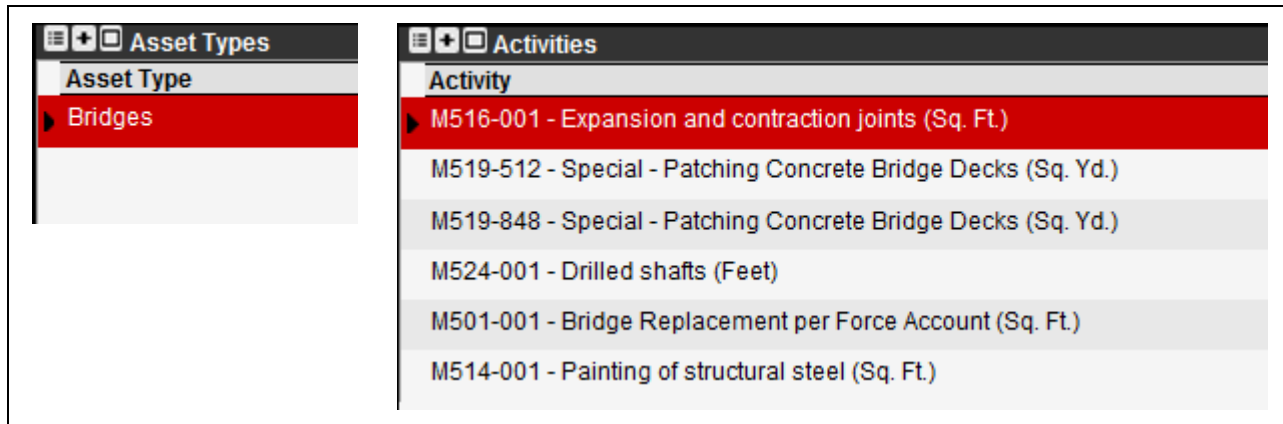

Figure 2-5. Project Detail Pane Examples
9. This completes the selection process. The user may now view the list of selected Asset Types and Activities appearing in the lower panes (Figure 2-5).
TIP! The user may now view the list of selected Asset Types and Activities appearing in the lower panes (Figure 2-5).